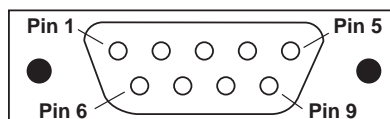

Figure 16: 9-Pin D-Shell Connector (drive controller end of drop cable)
- At any node device connector, measure the resistance between pins 2 & 3 (the signal pins) — see Figure 16. This should range between 60 to 80 Ω , including the cable wire resistance.
- At each node device connector, check for an open circuit between pin 2 (a signal pin) & pin 1 (the shield pin). Then check between pin 3 (a signal pin) & pin 1 — see Figure 16. An open circuit should exist for both checks.